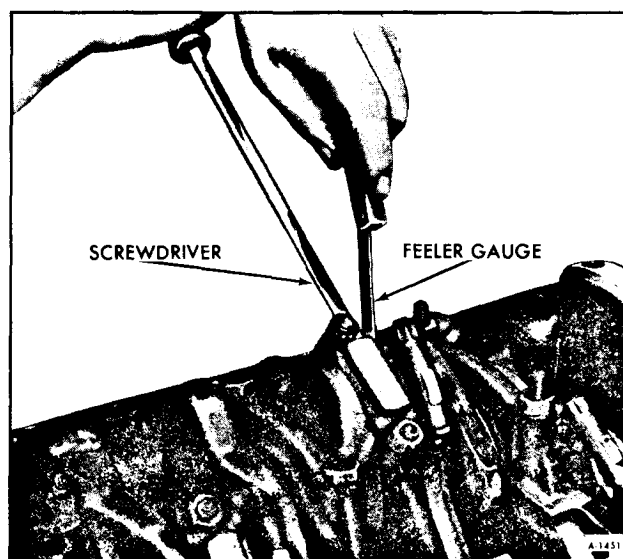

Figure 39-Connecting Rod Side Clearance
9. Spread rods with screwdriver and measure the rod side clearance as shown in Figure 39. Clearance should be .006" to .020".
The clearance between the adjacent rods, when checked with a feeler gauge on each crankpin, should be from .006" to .020". Refer to Figure 39.